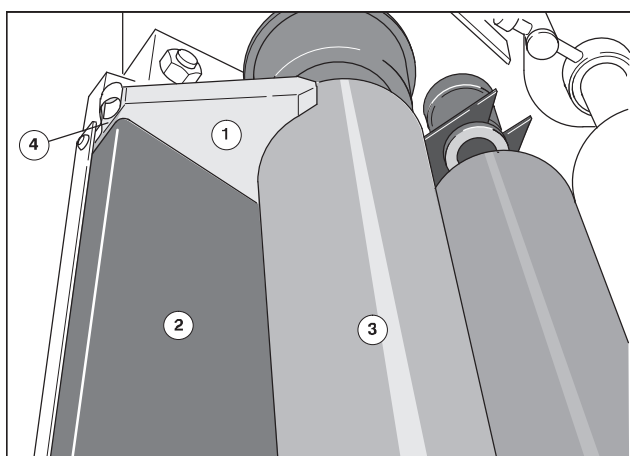

Fig. 3 Inserting the ink fountain cheeks
Before inserting: clean the ink fountain cheek (Fig. 3/1), ink fountain blade (Fig. 3/2) and ink fountain roller (Fig. 3/3).
1. Insert the ink fountain cheeks (Fig. 3/1) in the grooves next to the ink fountain blade (Fig. 3/2) on D.S. and O.S.